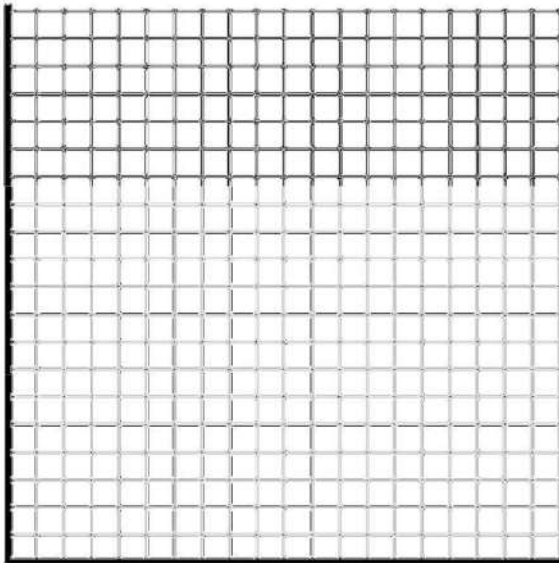
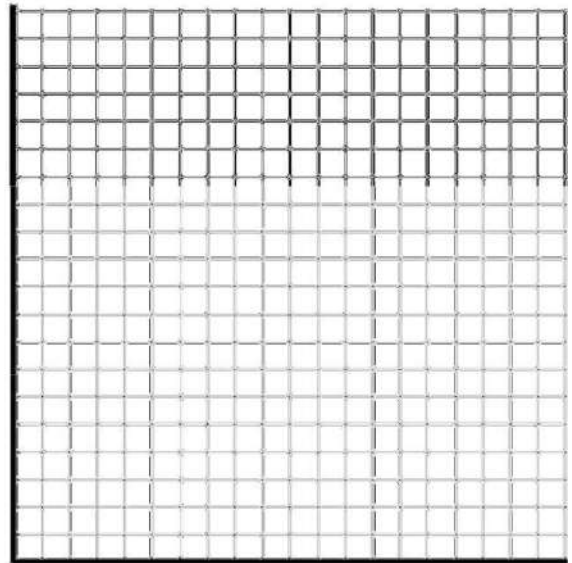

Figure 1.
Figure 2.
5. In the axes system below draw graphs for the number of polyester microfibers of each colour counted in the water sample (Figure 1) and for the total relative frequency (in %) of polyester and cotton microfibers found (Figure 2). Write the captions for the X and Y axes and the graphs you have drawn.